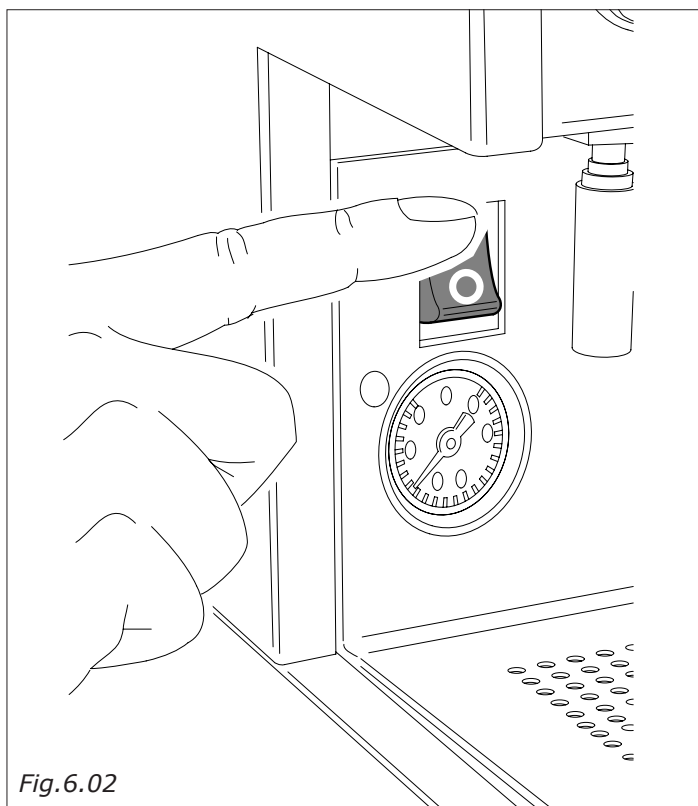

Fig.6.02
- By positioning the main switch (Fig.6.02) on 1 the switch light will turn on.